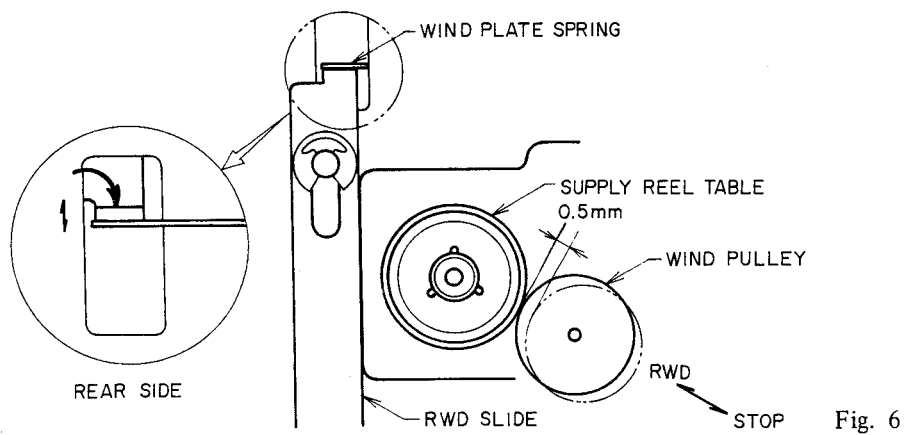

Fig. 6
5. REWIND SLIDE POSITION ADJUSTMENT (Refer to Fig. 6)